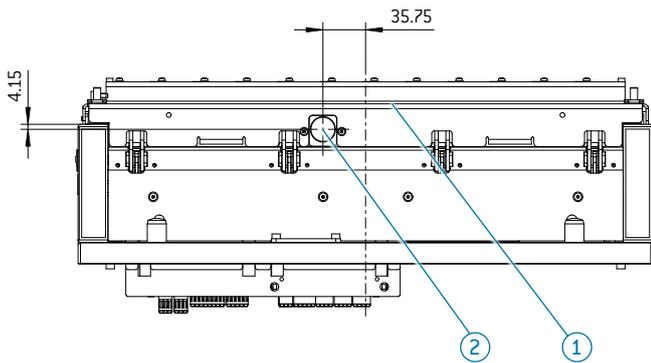

Fig. 173
- ① Adapter
- ② Turck RFID TAG
- ③ RFID TAG holder
- ④ Platform
- ⑤ Sick read/write head
- ⑥ Receiver
- ⑦ Mounting plate
- If the system is operated with a customer platform and any other RFID read/write head, the necessary dimensions for the intended installation position of data carrier (2) in adapter (1) are shown in Fig 173.